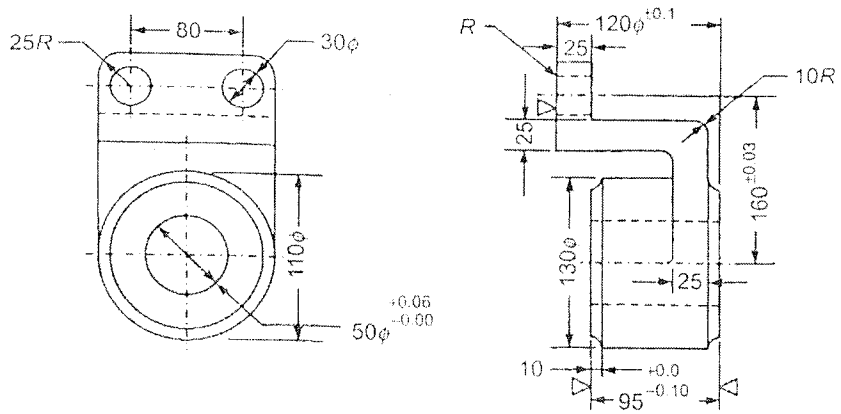

Fig. 1
- Q.6** Prepare the detailed process plan for the component shown in figure 1. **(10)**